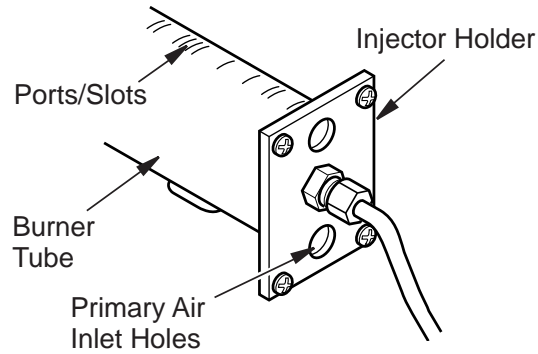

Figure 48 - Injector Holder On Outlet Burner Tube
2. Inspect burner, pilot and primary air inlet holes on injector holder for dust and dirt (see **Figure 48**).